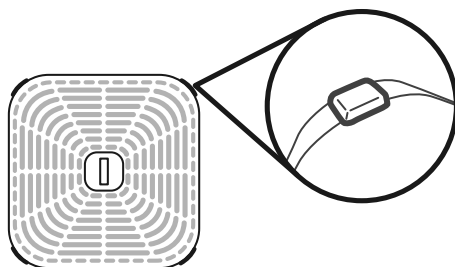

Figure 1.2
- When placing the crisper plate into the basket, tilt the crisper plate to insert one side first, then press down on the other side. **[Figure 1.2]**